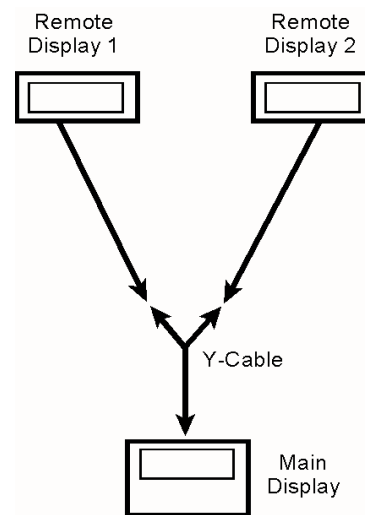

Figure 5: Connection Arrangement for 2 LED Remote Displays 225065C
- b. Connect the Y-cable connection to the 'Remote' port on the DigiStar/TopCon main display, as per *Figure 5*.
- c. Connect the Y-cable connection to the 'Aux' port on the Scale-Tec POINT® main display, as per *Figure 5*.